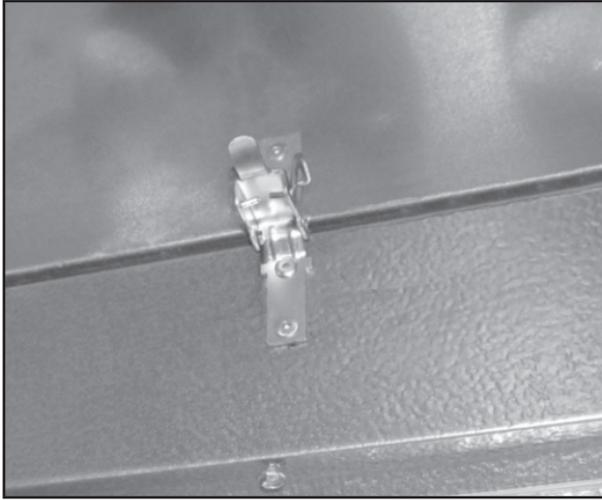

Figure 4
- Secure interior latches (Figures 4 and 5)